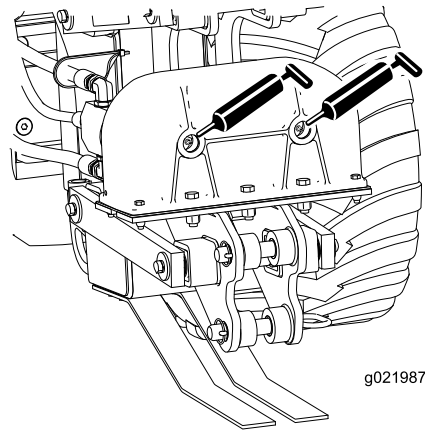

Figure 24
2. Connect a grease gun to each fitting (Figure 24, Figure 25, and Figure 26).